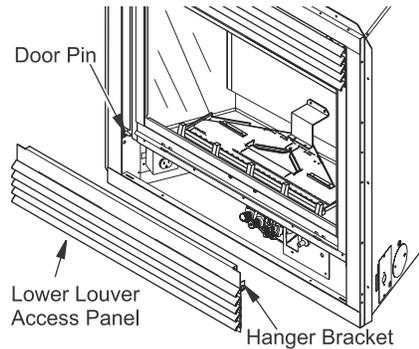

Figure 54 - Removing Lower Louver Access Panel
1. Grasp lower louver panel and pull up until hanger brackets release from door pins (see Figure 54, page 30).
1. Remove lower louver panel (see *Removing Lower Louver Access Panel* and Figure 54, page 30).